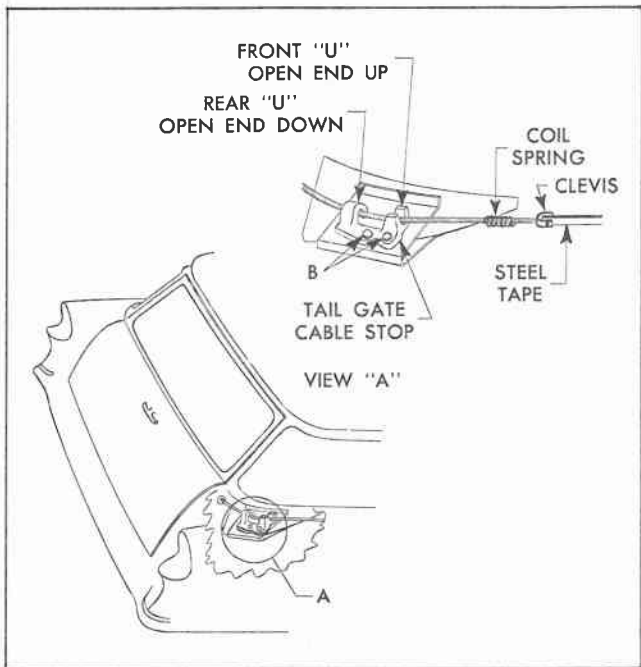

Fig. 7 Installation of Tail Gate Cable Stop
The 1955 station wagons are equipped with a right and left tail gate cable stop, located between the rear quarter inner and outer panels, as shown in Fig. 7. It is important to make certain that both the left and right cable stops are installed properly on the correct side of the body to provide proper cable operation and full travel of the tail gate.
1. On the right side of the body, reach up between the rear quarter inner and outer panels and check the cable stop to make certain it is installed with the open end of front "U" facing upward, as shown in Fig. 7.